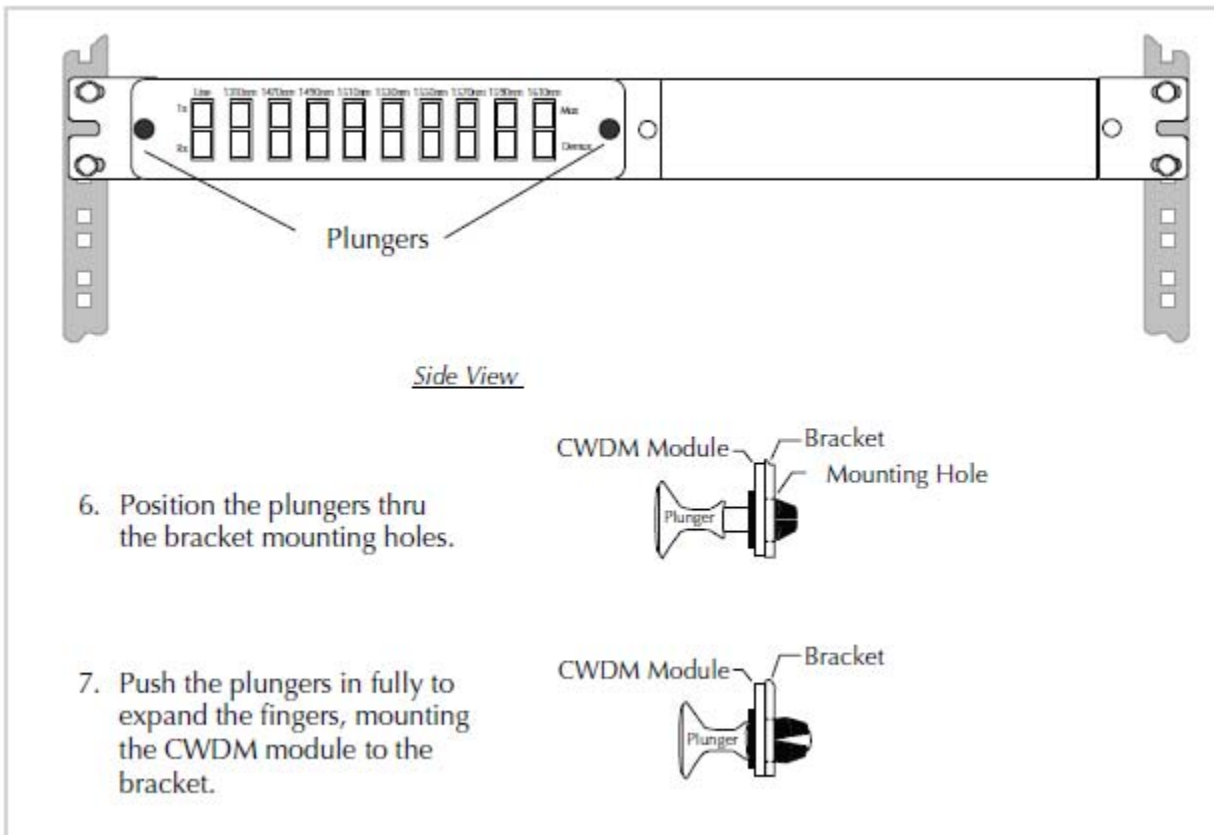

Figure 6: CWDM Module Installation into Bracket
5. Secure the CWDM module to the bracket, as shown in Figure 6.